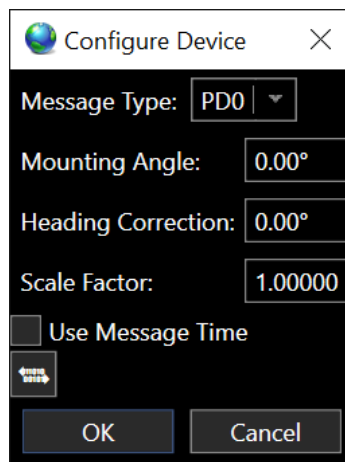

FIGURE 18-6 TRDI DEVICE CONFIGURATION
- Configure the ADCP device, click the  configure device button on the device page to open the device configuration window (see Figure 18-6)